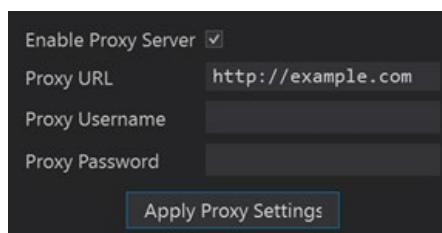

Figure 6. Proxy Settings
3. If a proxy server is required to connect to the customer network, check Enable Proxy Server, provide the full proxy URL (and optionally, the proxy credentials) and click **Apply Proxy Settings (Figure 6)**. HTTPS proxy URLs are not supported. **NOTE:** There must be a tethered connection between the Instrument Controller and the Bionano Access Server when using a proxy server. Connecting to the Bionano Access Server through a proxy server is not supported.